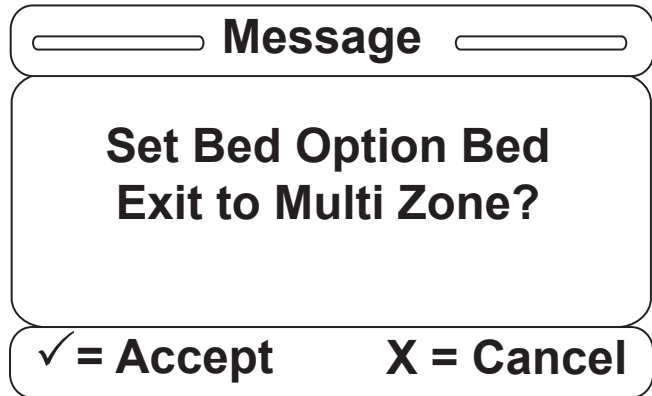

Figure S-13
13. Once you have selected one of the items, a confirmation screen such as that in Figure S-13 will be displayed. The confirmation screen text will vary based on the item you have selected. The confirmation screen in Figure S-13 indicates that the user chose the Bed Exit option to be Multi Zone. Hit “Enter” on the footboard panel to confirm your Bed Exit option; hit “Exit” to cancel the operation.